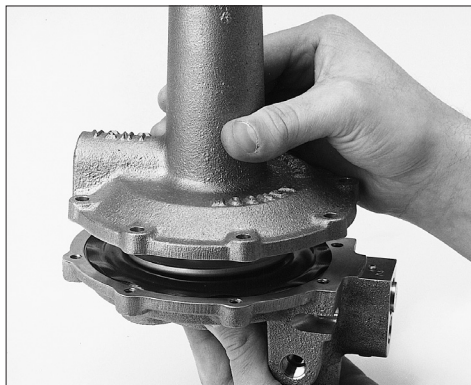

Figure 34
- Place Spring Case on Pilot Body with vent connection in any desired position. It is recommended that the vent connection be face down when the pilot is mounted on the regulator so that condensation will drain away instead of accumulating and possibly freezing (refer to Figure 34).